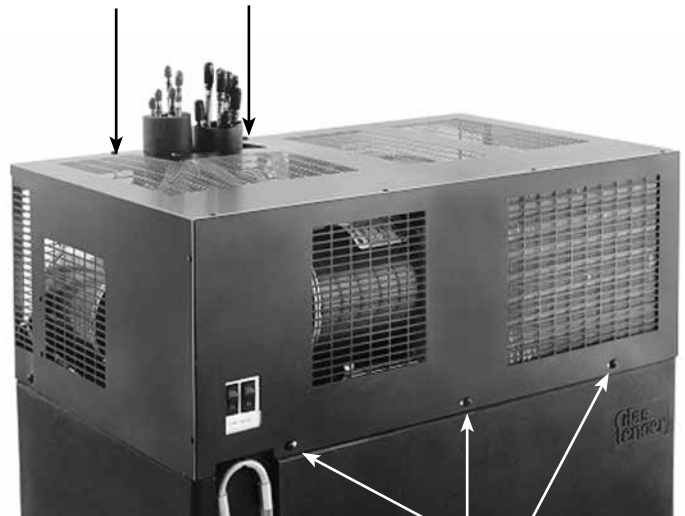

Fig. 2 Removal of Front Cover
- Remove the three-(3) screws in front of the unit, and two-(2) screws on top rear. (see fig.2)